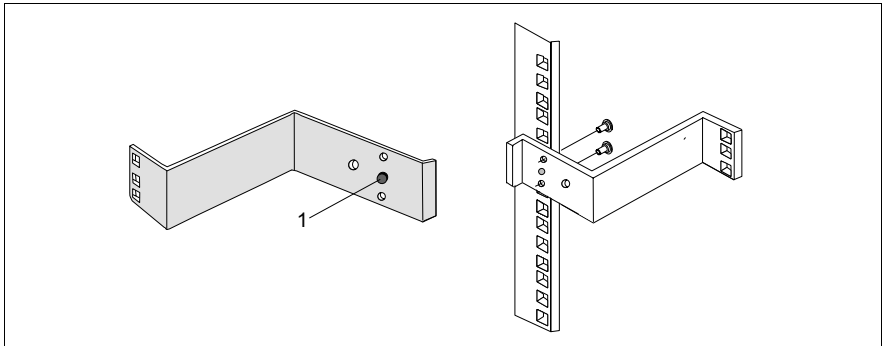

Figure 4: Mounting the support bracket
- Place the support bracket at the appropriate height on the left rear support upright by inserting the positioning nub (1 in figure 4) in the corresponding hole of the support upright.